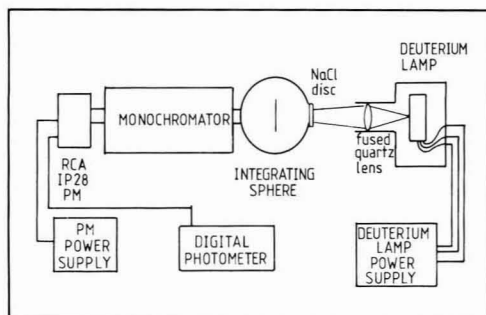

Figure 5—Apparatus for measuring the UV absorbance spectra of pigments
(2) The apparatus shown in Figure 5 was assembled. It consisted of a Cathodeon C70-3V-H deuterium lamp, radiation from which was focused by a quartz lens onto a 1.5 cm diameter circle concentric with the 2 cm diameter entrance port of an integrating sphere coated internally with Eastman Kodak barium sulphate reflective coating. Radiation passed from the exit port of the integrating sphere into an Applied Photophysics monochromator. Radiation leaving the monochromator was detected by an RCA 1P28 photomultiplier sensitive to wavelengths between 200 and 600 nm. All the components were aligned on an optical bench. The current from the photomultiplier was measured with an Alphametrix DC1010 digital photometer.
(3) A clean polished NaCl disc 4 mm thick and 20 mm in diameter was placed in the entrance port of the integrating sphere. The deuterium lamp was switched on,